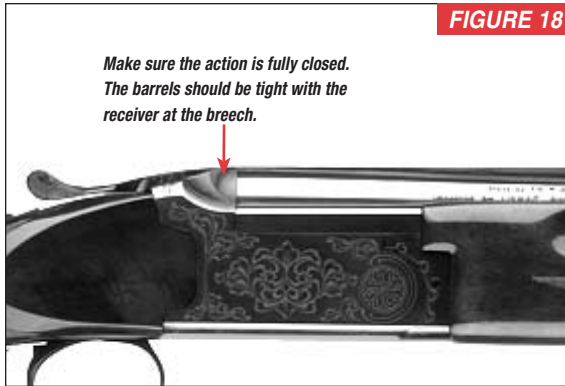

FIGURE 18
5. Close the action by lifting up on the forearm, hinging the barrels upward into position, until the action is fully closed. When closed, the top lever will snap back into the center position. There should be no space between the face of the barrels and the face of the receiver when the action is fully closed (Figure 18).